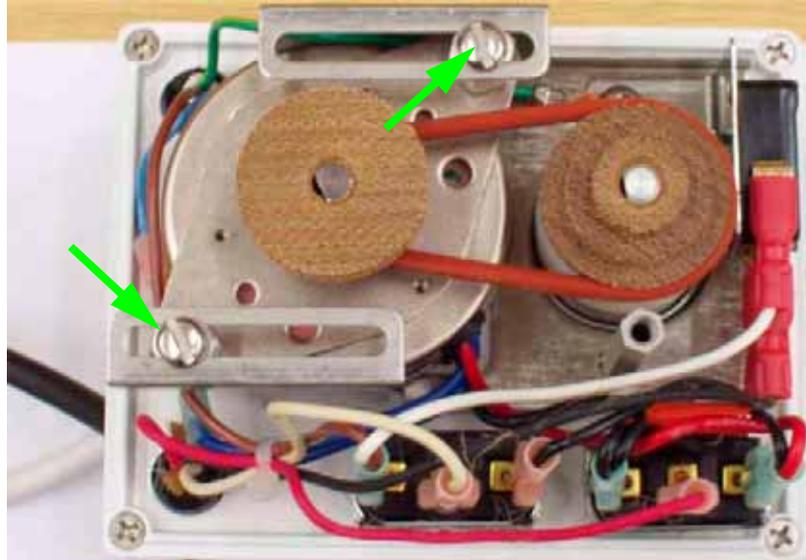

Figure 6-2. Acid Pump - Top View (Open)
**Note.** If the tension of the rubber ring is not sufficient, open the two screws shown in Figure 6-2. Then pull the motor in one direction so that the tension of the rubber ring increases.